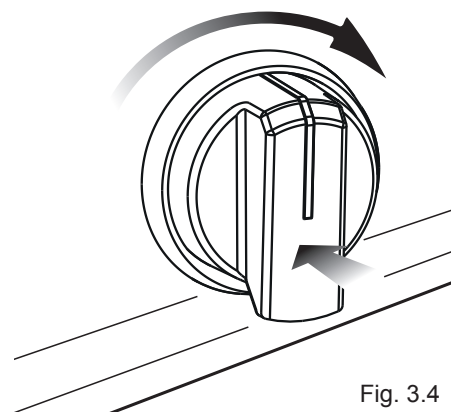

Fig. 3.4
2) Press the oven control knob right down and turn clockwise (fig. 3.4) to the **BROIL** position.